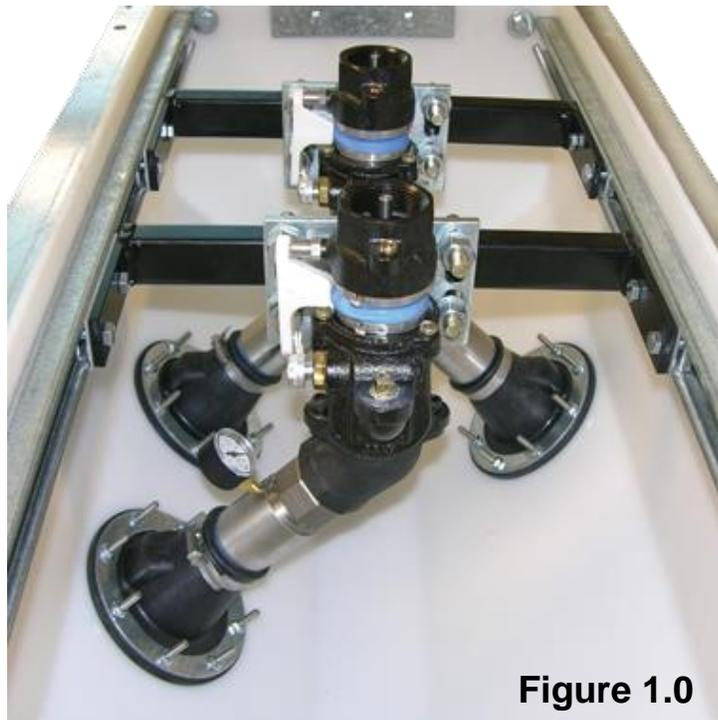

Figure 1.0
28. If a facility installs OPW-flex works equipment, including the setup shown in Figure 1.0, then what are the monitoring requirements in regards to interstitial piping leak detection?